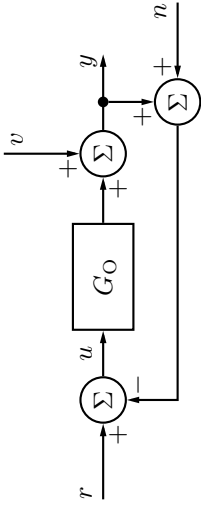

Figure 6.9a
6.9 Consider the system in Figure 6.9a. For  $r(t) = 0$ ,  $n(t) = 0$  and  $v(t) = \sin t$  the steady-state output is given by